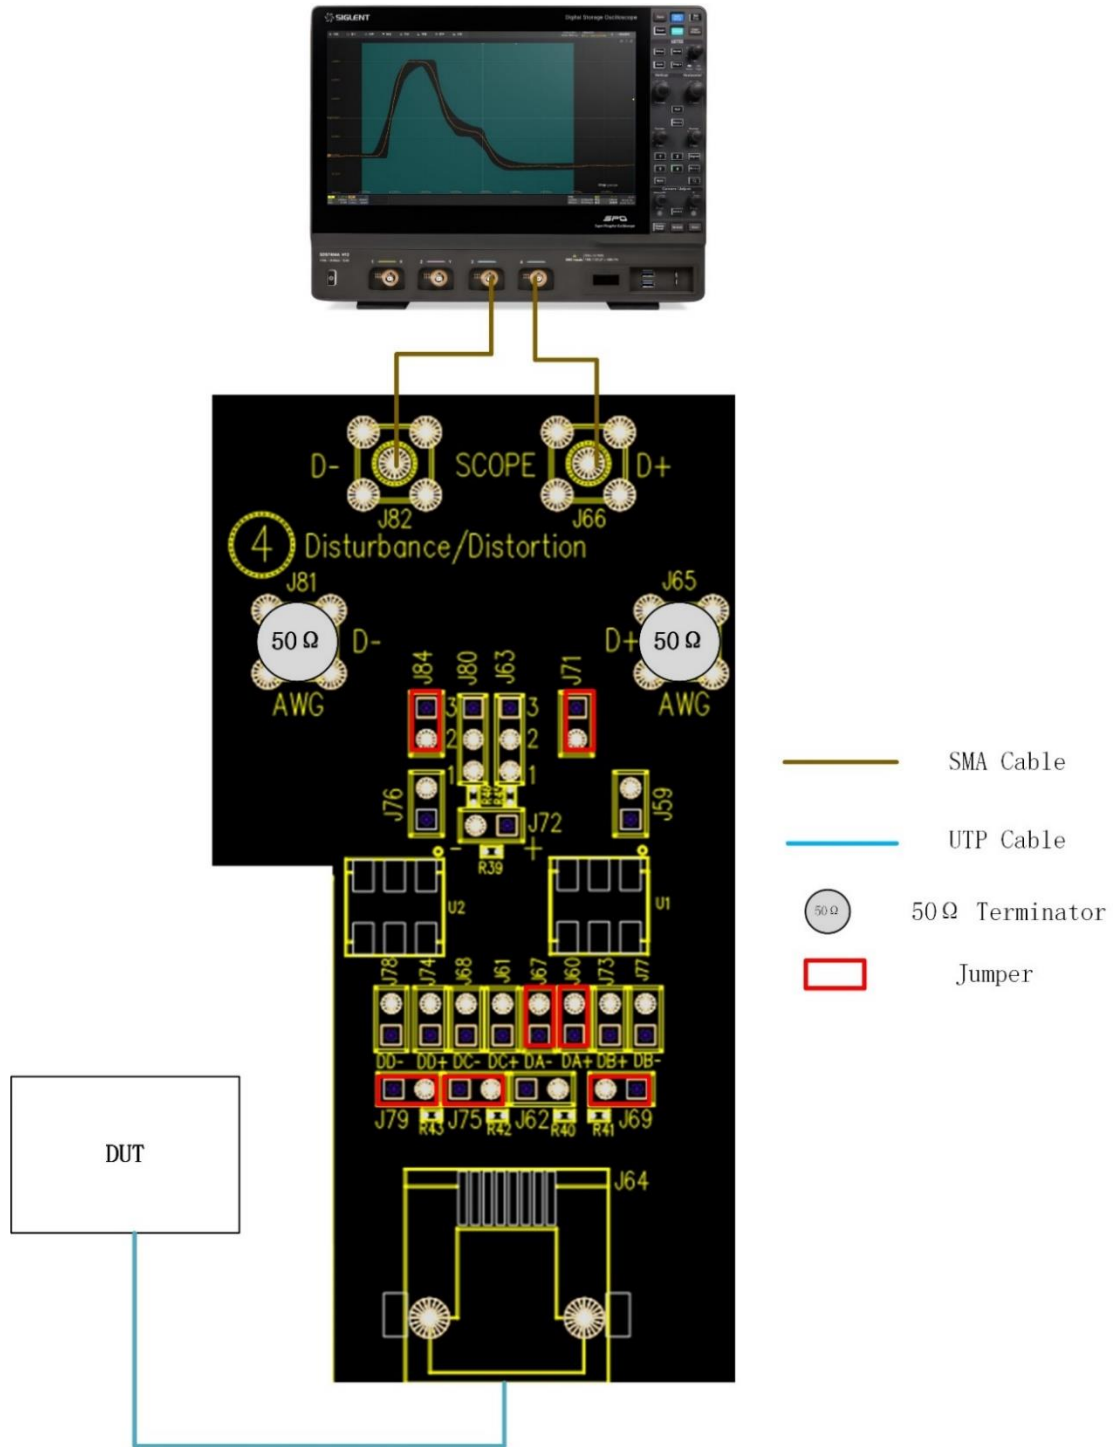
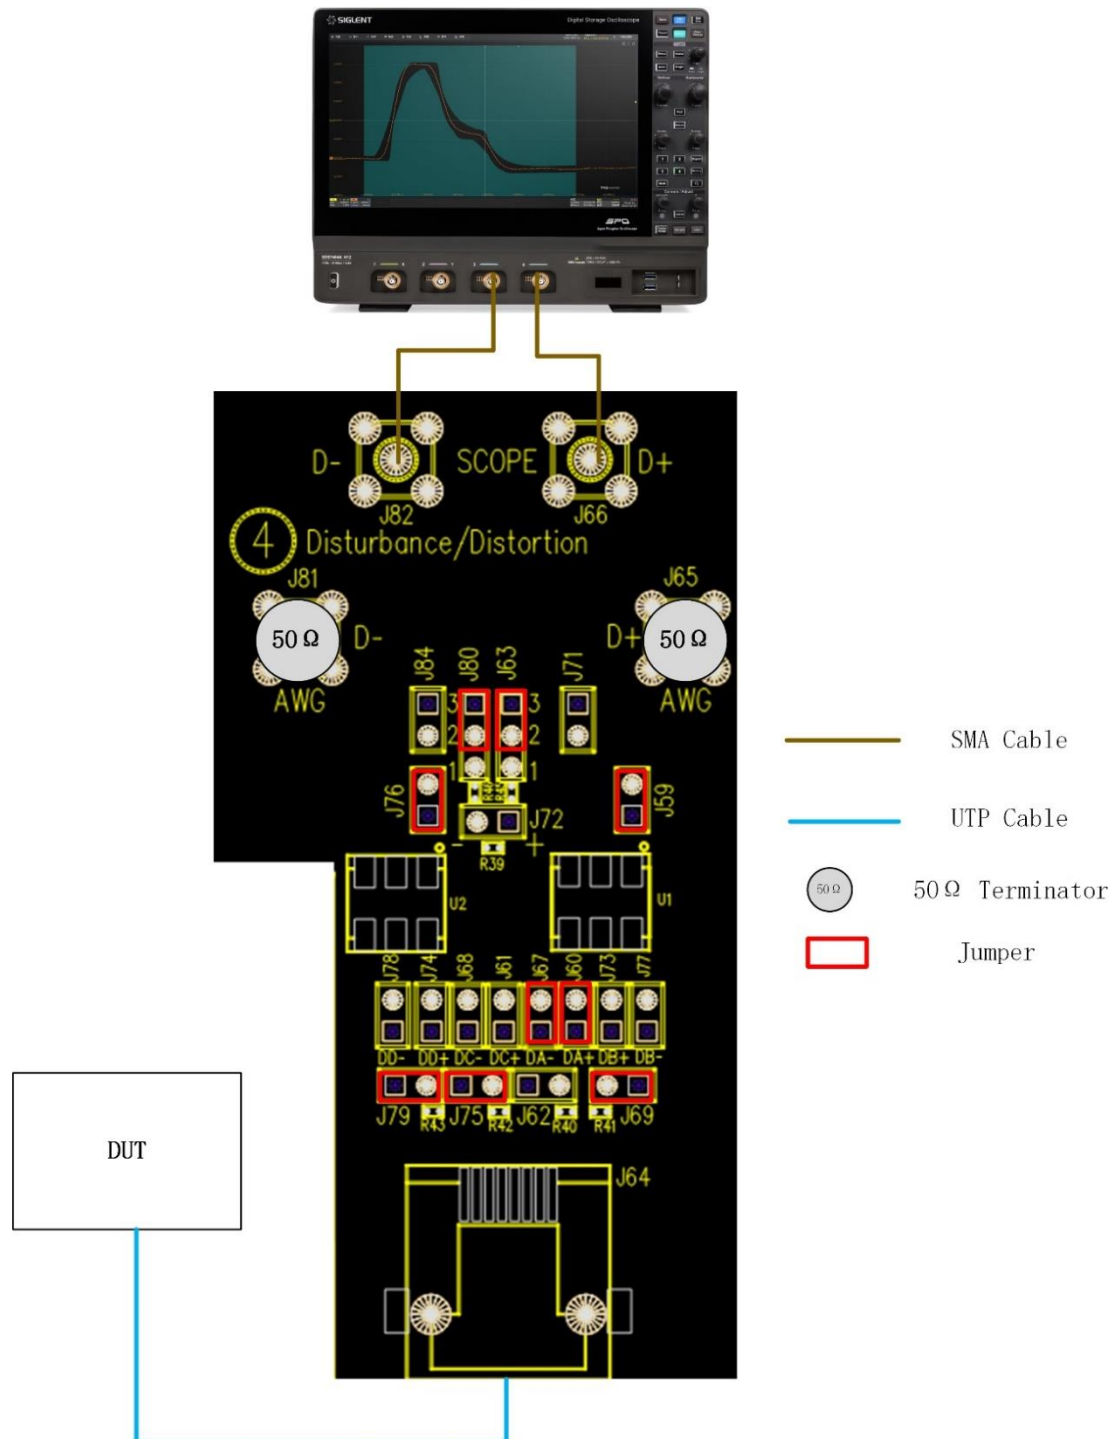

Figure 5-5 Oscilloscope measures the DUT's raw signal
Figure 5-6 Oscilloscope measures DUT's signal amplitude which pass through the power combiners
DUT signal path calibration with SMA cables is shown as Figure 5-5 and Figure 5-6, the calibration procedure for signal path is as follows:
- (1) Use a short UTP cable to connect the DUT to the J64 connector on section ④ of the test fixture.
- (2) Use two SMA cables with equal length to connect the test points J82(D-) and J66(D+) on section ④ of the test fixture to two input channels of the oscilloscope.
- (3) J65 and J81 are installed with two 50Ω terminators.
- (4) As Table 5-1 shown, select the signal pair being calibrated. For example, for pair A, install jumpers on J60, J67 to connect the Pair A signal to the test circuit. Install jumpers on J69, J75, J79 for 100Ω termination of untested signal pairs.
- (5) As Figure 5-5 shown, install jumpers on J71, J84 and remove jumpers from J59, J63, J76, J80. Click **Run Test** on the **Test Config** window, oscilloscope will measure the DUT's raw signal amplitude.
- (6) After you confirm the DUT's raw signal amplitude meets requirement, pls click **Next** on the pop-up window, which will continue to test the DUT's signal which is attenuated after pass through the power combiners U1 and U2.
- (7) As shown in Figure 5-6, install jumpers on J59, J63 (pin2, 3), J76, J80 (pin2, 3) and remove jumpers from J71, J84. Oscilloscope measures the DUT's signal amplitude which goes through the power combiners. Click the **Complete** after confirming that the amplitude measurement meets the requirements.
- (8) The oscilloscope divides the raw signal amplitude of the DUT and the signal amplitude which is attenuated by the power combiners to obtain the amplitude attenuation coefficient. The signal path calibration is finished.